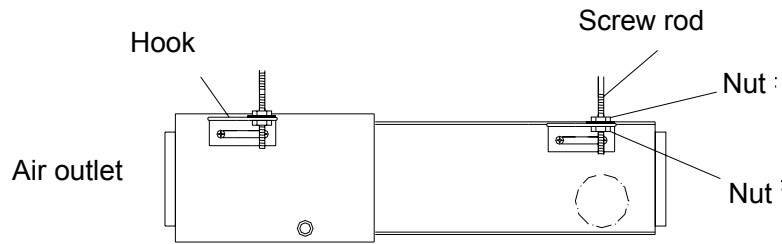

Fig. 3-2-4
- 2) Install the hook to indoor unit. See Fig. 3-2-4